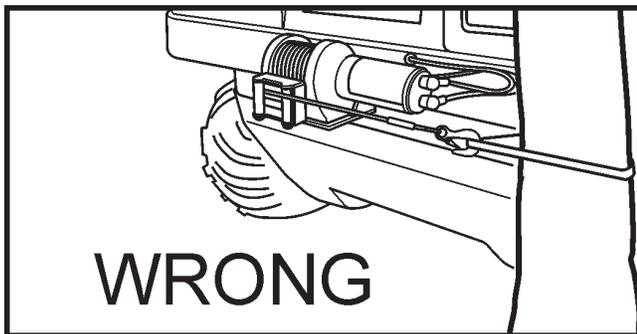
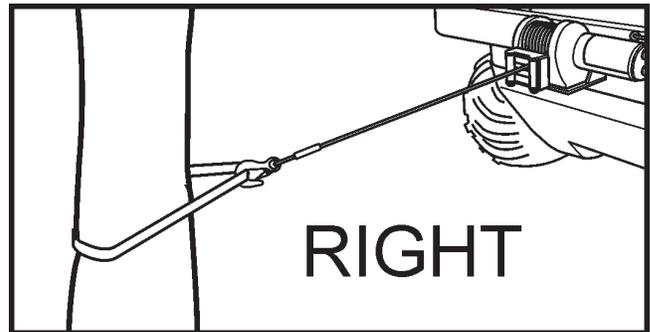

Figure 11-12. Incorrect positioning for continuous pulls.
Figure 11-13. Correct positioning for continuous pulls.
11. Avoid continuous pulls from extreme angles as this will cause the wire rope to pile up at one end of the drum (Figure 11-12 and figure 11-13). This can jam the wire rope in the winch causing damage to the wire rope or the winch itself.